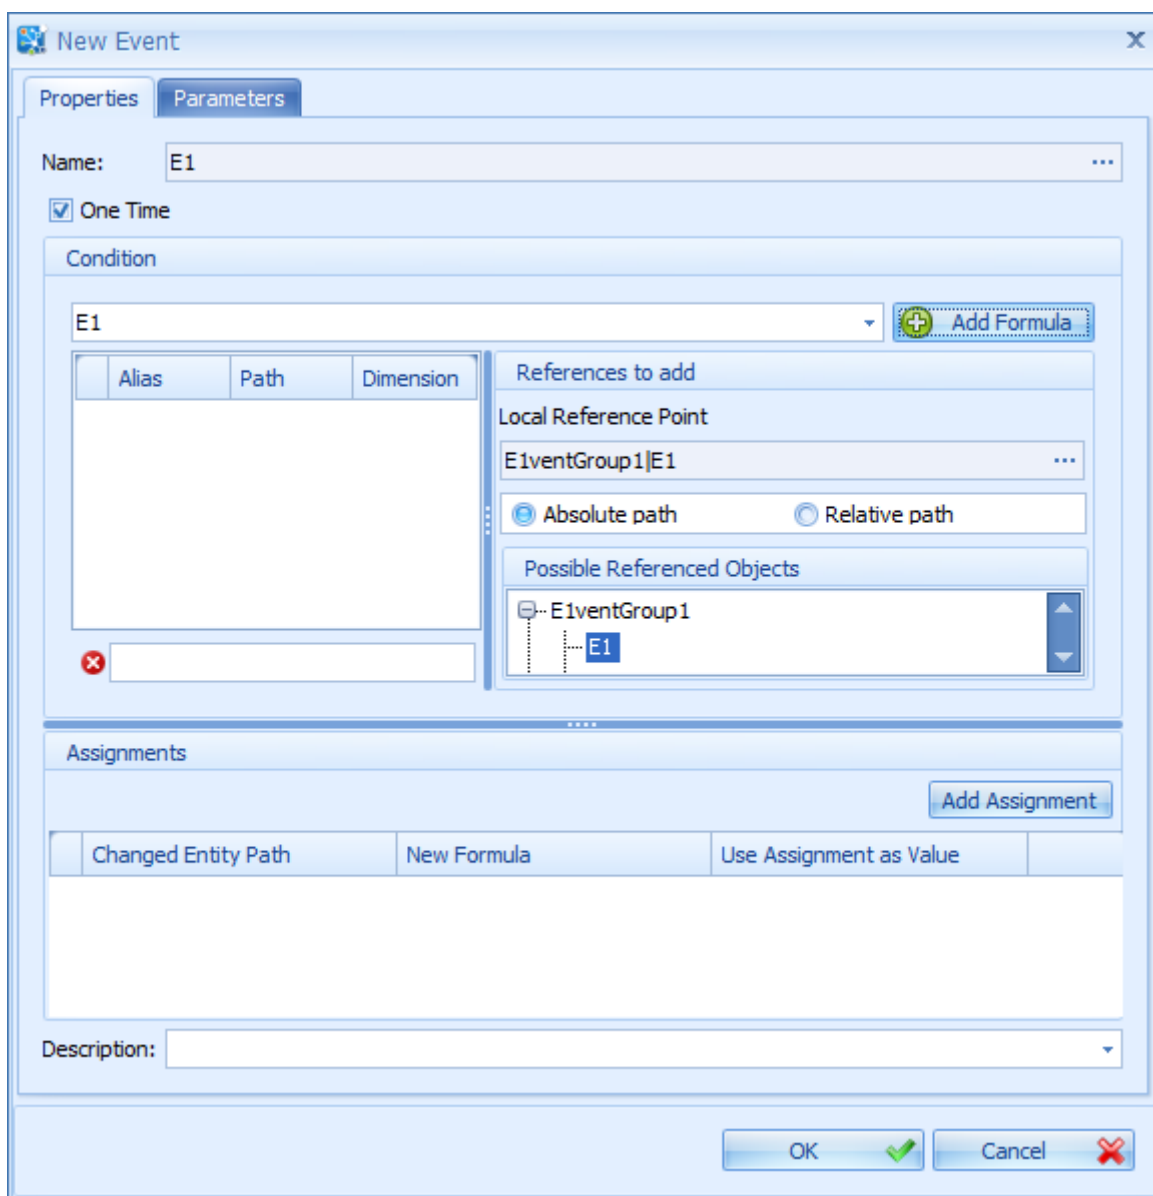

Figure 25.22. New Event window
3. The section "Condition" below the checkbox (see Figure 25.22) requires that you enter an event condition name, which is comparable to a formula name of a reaction or a parameter. Enter "E1" into this input box.